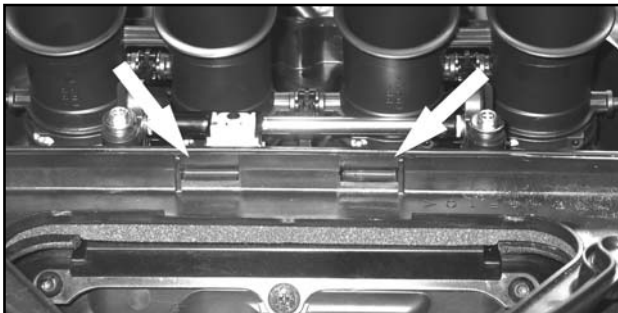

Fig. 1
**Note:** Locate the grooves in the air box (Fig. 1) and hold the K&N Air Filter at an angle to line up the tabs on the air filter with the grooves in the air box. (Fig. 2)